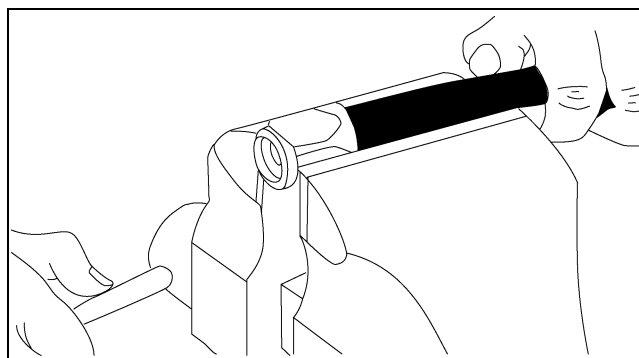

Figure 5D
- d. Clamp socket in vise. (See Figure 5D.)